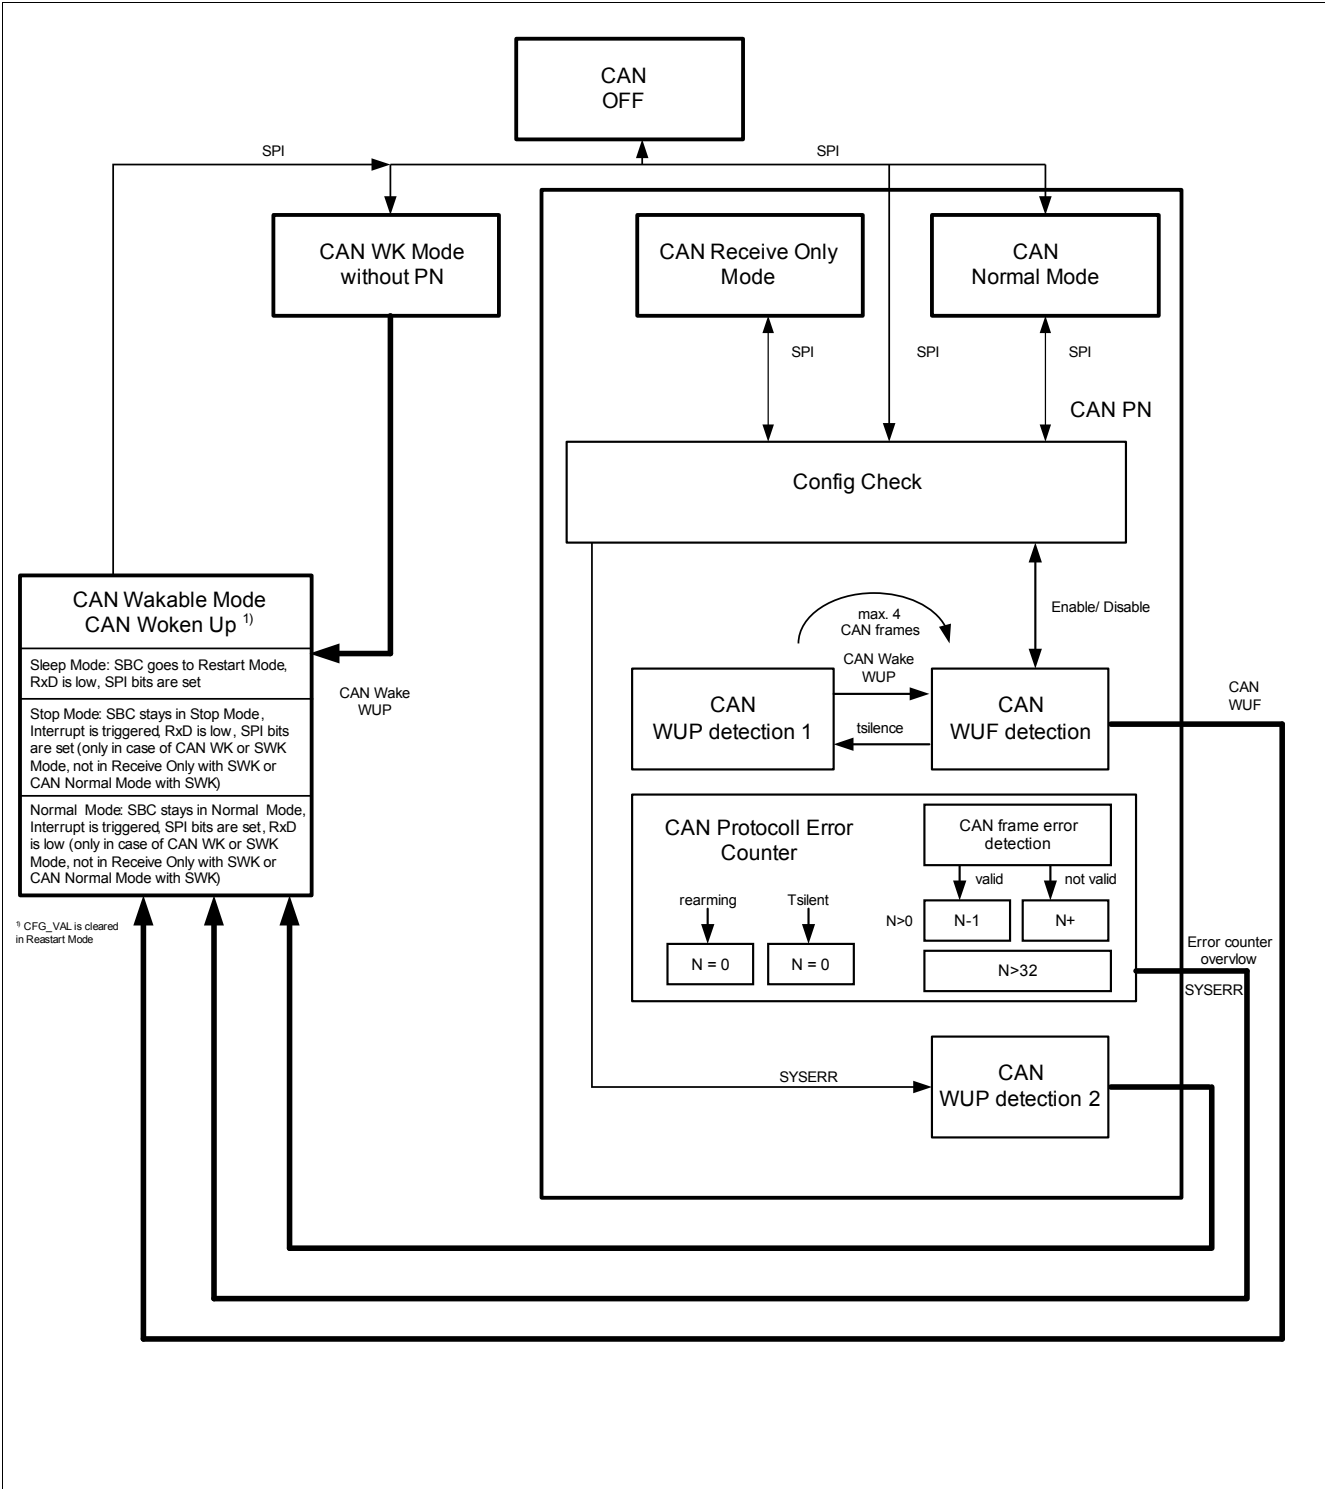

Figure 14 CAN Selective Wake State Diagram
*Note: It is possible that WUF and WUP bits are set at the same time, if a WUF causes a wake-up out of SWK, by setting the interrupt or by restarting out of SBC Sleep Mode. The reason is because the CAN has been in WUP detection 1 state during the time of SWK mode (because of  $t_{\text{SILENCE}}$ ). See also Figure 14.*
The SWK\_SET bit is set to signalize the following states (see also Figure 14):